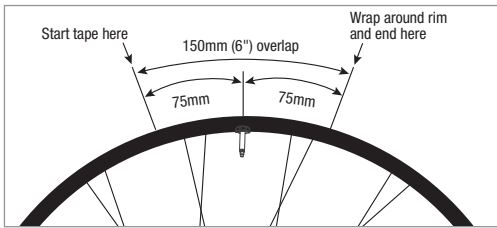

Figure 6
- Begin taping 75mm to one side of valve. Wrap 360° around rim and end 75mm on other side of valve to provide a 150mm (6") tape overlap (Fig. 6).